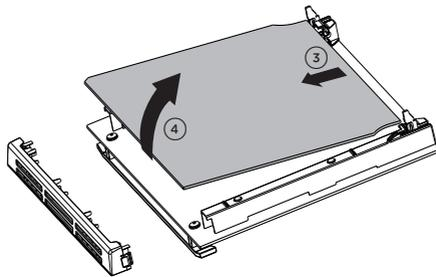

Fig. 5.11
- Gently lift and pull out the inner pane of glass by releasing it from the bottom retainers. Do not angle the pane too much as you may damage the glass (fig. 5.11).